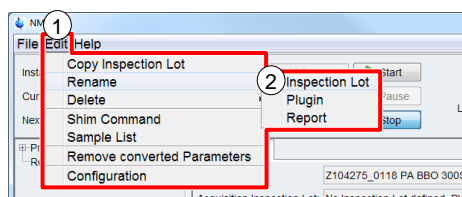

Figure 5-13: Rename Inspection Lot in menu
To rename an Inspection Lot, on the **Edit** menu shown in Figure 5-13 (1), point to **Rename**, and click **Inspection Lot** (2).